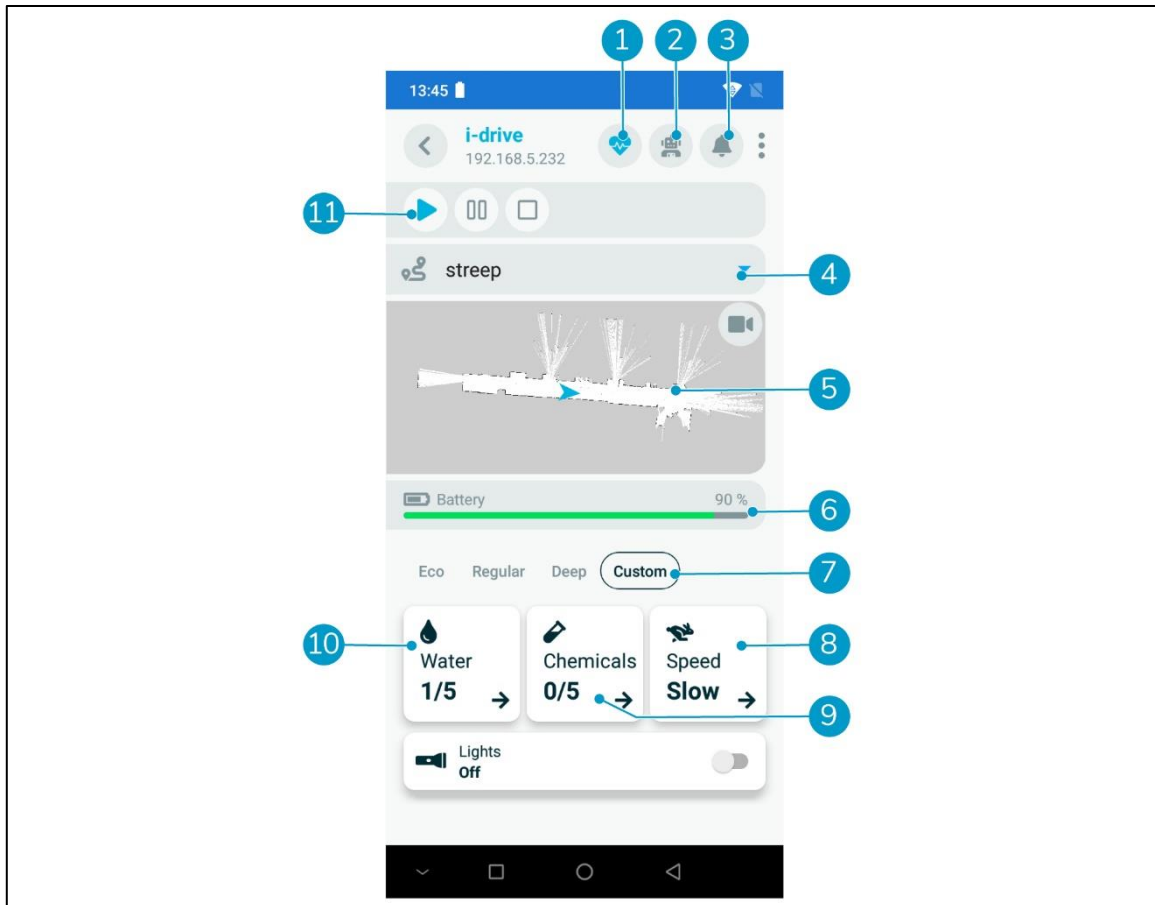
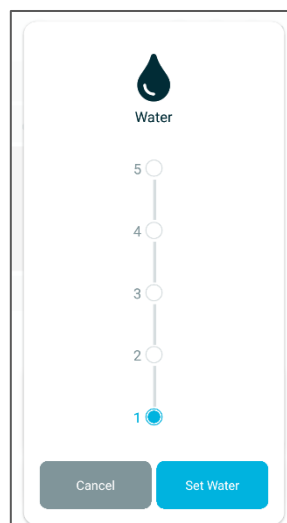

Figure 35
Figure 36
4. Check the connection indicator on the remote device (Figure 35, pos 1).
5. Check the battery level (Figure 35, pos 6).
11. On the remote device choose the correct route (Figure 35, pos 4), select the cleaning mode (Figure 35, pos 7), adjust settings accordingly and press start (Figure 35, pos 11).
13. On the remote device the robot is shown (Figure 35, pos 2) and on the map (Figure 35, pos 5) the CO-BOTIC 65 can be followed digitally.
1. On the remote device notifications can pop up when the CO-BOTIC 65™ communicates a problem. In the app the notifications can be shown by touching the error button (Figure 35, pos 3). The CO-BOTIC 65 should be checked.
2. If the connection button (Figure 35, pos 1) is greyed out in the app, the communication is lost with the CO-BOTIC 65 and the CO-BOTIC 65 should be checked.
3. The cleaning mode can be adjusted at any time. The custom cleaning mode (Figure 35, pos 7) provides the option to:
- Choose the amount of water to use. Touch the Water button (Figure 35, pos 10) for more or less water. Choose one of the five different levels in the Water window (Figure 36). Touch the Set Water button to save.
- Choose the amount of detergent to use, the level is always proportional to the amount of water. Touch the Chemicals button (Figure 35, pos 9) for more or less detergent. Choose one of the five different levels in the Chemicals window. Touch the Set Chemicals button to save.
- Choose the speed to use. Touch the Speed button (Figure 35, pos 8) and choose Fast (up to 3.6 km/h adjusts accordingly) or Slow (1.0 km/h). Touch the Set Speed button to save.